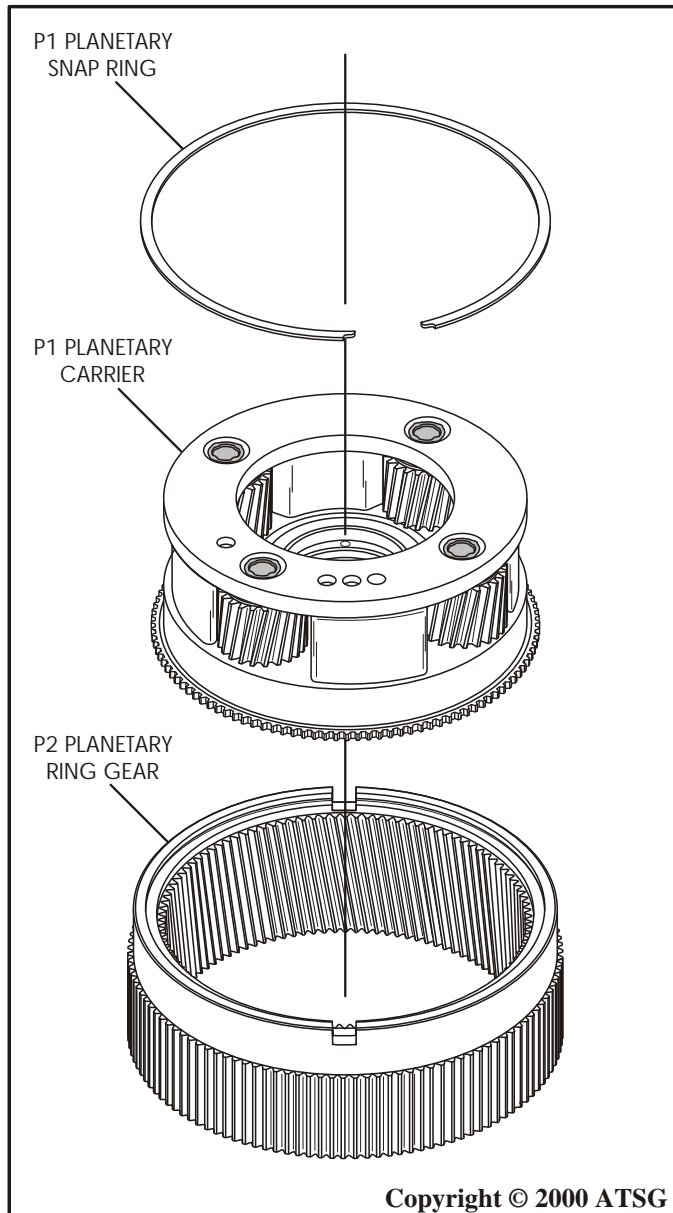

Figure 141
3. Lay the P2 ring gear (with notches) on a flat work surface in direction shown in Figure 141.
4. Install the P1 planetary carrier into the splines of the P2 ring gear, and install the P1 planetary snap ring, as shown in Figure 141.